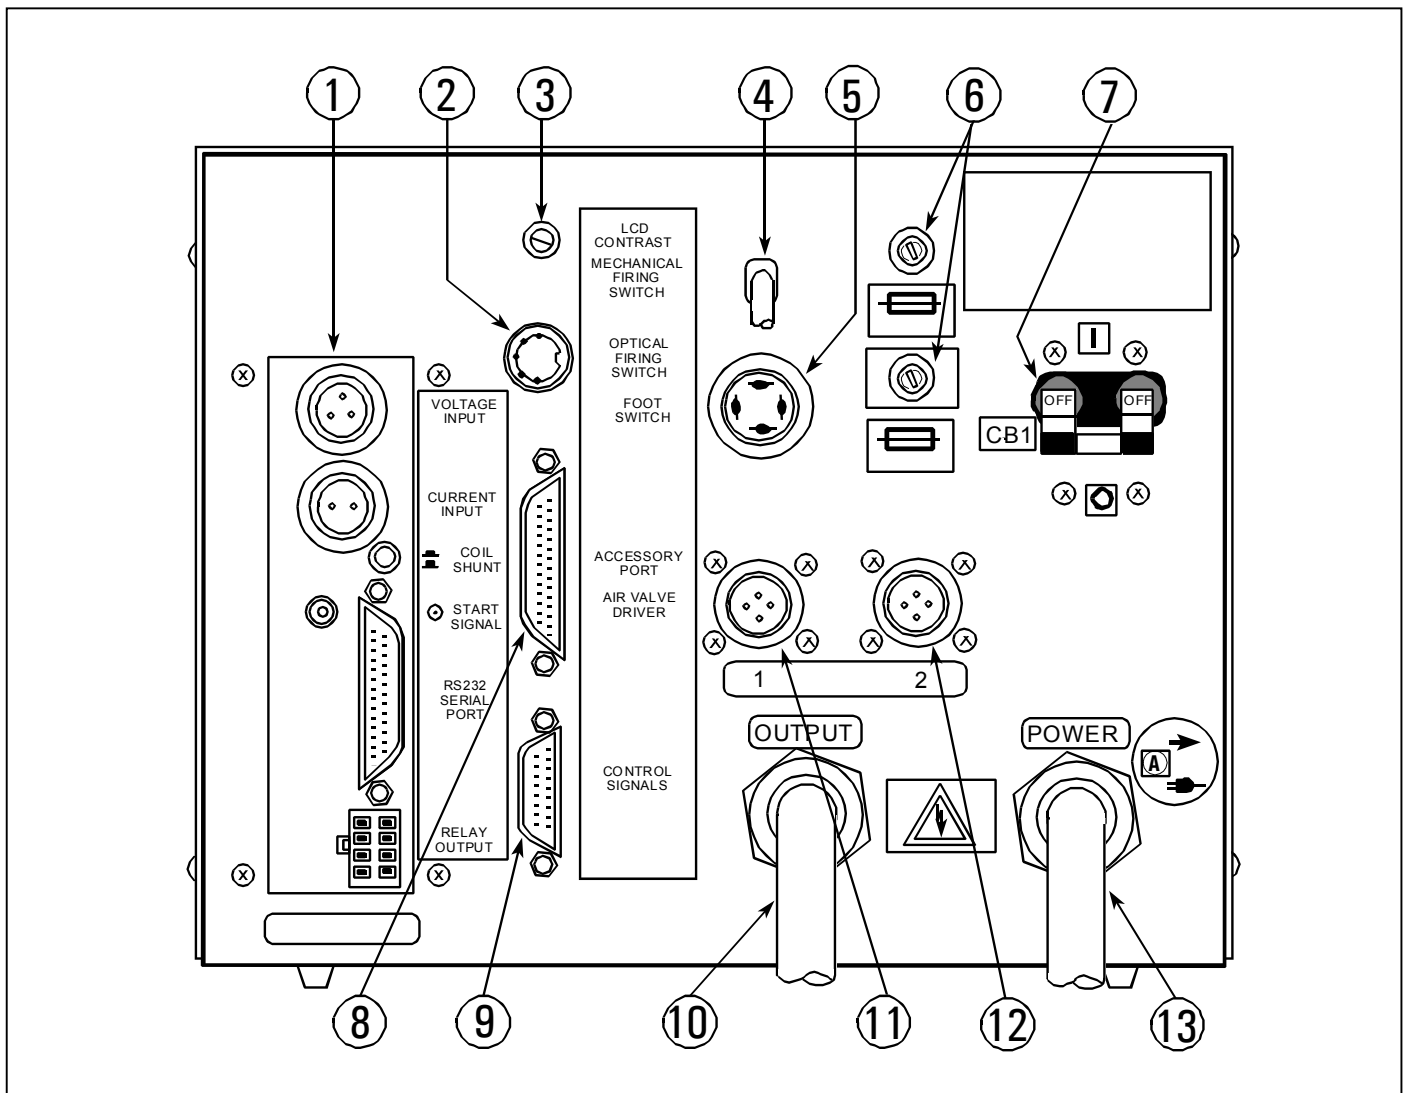

**Figure 2-2. Terminal Connection Examples**
- Bolt connections directly together. Do not place washers between the terminals of the PM7 and the terminals of the cables. Tighten connections securely, they must be free from oxidation, dirt and/or grease (see figure 2-2).